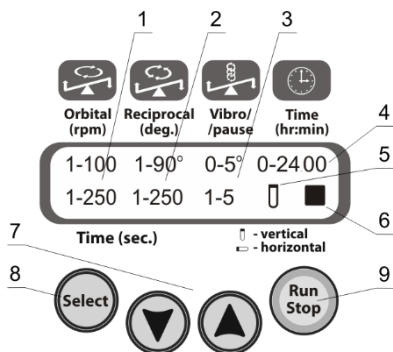

Figure 2. Multi Bio RS-24
- 5.2.4. Press the **Run Stop** key (fig. 2/9 or 3/9) to start the program.
- 5.2.5. The platform motion begins and the corresponding indication is shown on the display: icon ► (fig. 2/6 or 3/6), the changing time values of the current movement type in seconds (fig. 2/1-2/3 or 3/1-3/3, lower line) and the operation timer in hours and minutes (fig. 2/4 or 3/4).
- 5.2.6. If the operation timer is not set and display shows 0:00 (fig. 2/4 or 3/4), pressing the **Run Stop** key causes continuous operation of the rotator until the **Run Stop** key is pressed again.
- 5.2.7. If the operation timer is set, after timer expires, the platform movement stops, display shows flashing indication ■ (fig. 2/6 or 3/6) and the unit sounds a signal about the end of operation. Press the **Run Stop** key to stop the signal.
- 6.1. Press the **Select** key (fig. 2/8 or 3/8) to choose the parameter to change. The active parameter is flashing.
- 6.2. Use the **▼** and **▲** keys (fig. 2/7 or 3/7) to set the necessary value. If the key is pressed for more than 2 s, the numerical values change quicker.
- 6.4. The countdown timer (fig. 2/4 or 3/4) is used to control the operation time. The timer can be set for the period from 1 min to 24 hours.
When the tube icon (fig. 2/5 or 3/5) is in vertical position, reciprocal rotation starts from tubes in vertical position (platform in horizontal position).